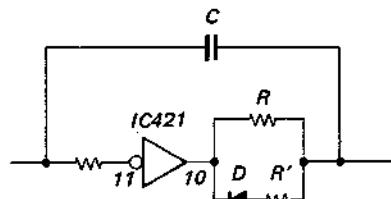

Fig. 2-11
- The circuits of Figs. 2-11 and 2-12 are not oscillators but are integrators using the very high input impedance of MOS ICs. The purpose of using these circuits is to obtain some delay which is achieved by C and R.